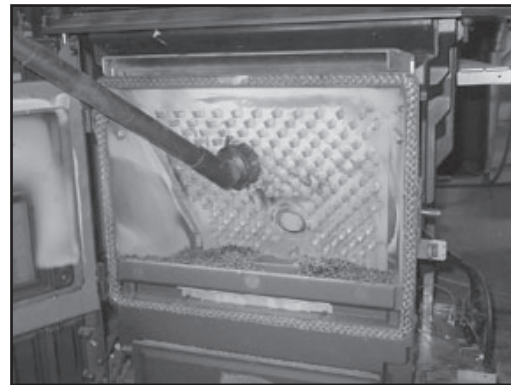

Figure 18.3
- Vacuum the ash from the heat exchanger with an upholstery brush to remove the majority of the ash. Be sure to vacuum the back of the baffle also. Inspect the drop tube and remove any residue build-up in the drop tube. **Figure 18.3**